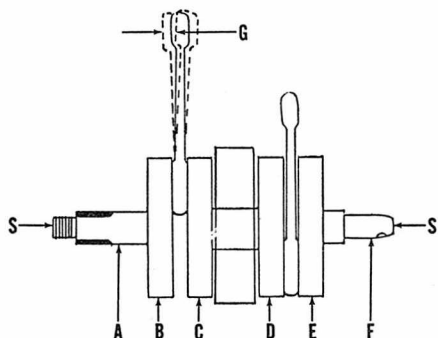

Fig. Y4-15—Refer to text for checking crankshaft assembly and wear limits.
crankshaft. If side shake (G—Fig. Y4-15) at piston pin end of connecting rod exceeds 0.08 inch (2MM), the connecting rod, crankpin and lower bearing should be renewed. Shake (G) should be 0.032-0.039 inch (0.8-1.0MM). Side clearance of connecting rod between the crankshaft counter weights can be measured with a feeler gage. Side clearance should be 0.0039-0.012 inch (0.1-0.3MM). With crankshaft supported between lathe centers (S—Fig. Y4-15), maximum eccentricity when measured with dial indicator at points (A,B,C,D,E, & F) should not exceed 0.0008 inch.